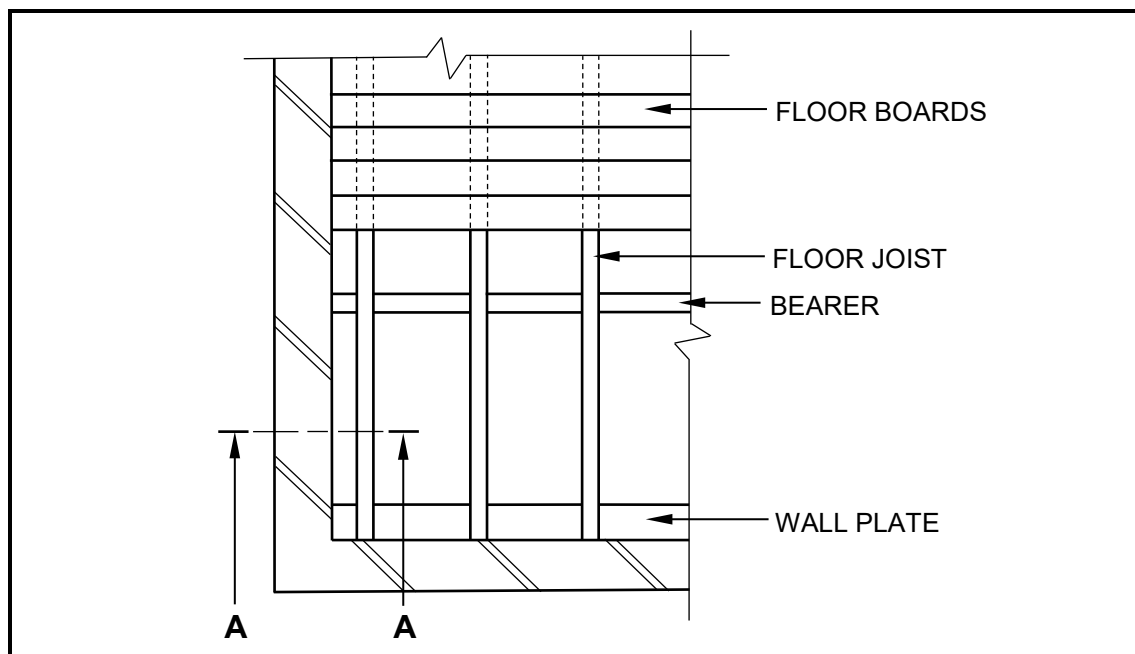

FIGURE 6.5
- 6.5 FIGURE 6.5 below shows part of the top view of a ground level suspended timber floor with section line **A-A**.